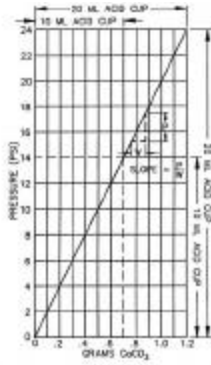

Fig. 4
In the Fann Calcimeter the calcium carbonate and magnesium carbonate are reacted with 10 percent Hydrochloric Acid to form CO₂. This is done in a sealed reaction cell and the pressure build up due to the CO₂ is measured using either a pressure gauge or a pressure recorder. The use of a Calibration Curve, Fig. 4, determined through the use of pure Calcium Carbonate reagent allows the pressure developed to be related to the weight of calcium carbonate in the calibration sample. Several weights of sample are suggested to assure an accurate curve. These tests can be conducted using either the pressure gauge or recorder with the reaction cell. The sample can be weighed on a portable balance (10 mg Precision or better). Refer to Section 5 for calibration procedure.
Before starting the Test Procedure, make sure the equipment is clean and in good operating condition. Verify that a calibration curve is available for the particular equipment to be used. Should a calibration curve not be available, follow the procedures outlined in Section 5 to construct one. For an illustration of this curve Refer to Fig. 4.
Before starting the test procedure for the ASTM Standard Test for Calcium Carbonate Content of Soils, make sure the equipment is clean and in good condition. Refer to Section 5 to verify that a calibration curve is available for the equipment to be used, and that the equipment uses a 20 ml acid cup. Should a calibration curve not be available, follow the procedures outlined in Section 5 to construct one using the 7 point plot. This ASTM test specifies the use of a 1.00 gm test specimen. For an illustration of the 7 point plot Refer to Fig. 4.
- E. Plot grams of CaCO_3 for each sample versus final pressure reading for each sample on linear graph paper. Draw a straight line averaged through these points. A sample graph for the four point plot and the addition for the 7 point graph is shown in Fig. 4. Larger samples of CaCO_3 cannot be reacted using the 10 ml acid cup.
- F. Note the linear relation between the pressure and sample size, therefore this curve may be assumed to be a straight line, and its slope will be a constant. As illustrated in Fig. 4 the slope of the curve is 2 psi / .1 gm CaCO_3 , or 20 psi / 1.0 gm sample, resulting in a slope of 20. Therefore the Calibration Factor in this case is $1/20 = .05 \times 100$ or 5. This number is the slope or average slope for the particular equipment calibrated. It is a function of the volume of the reaction cell.